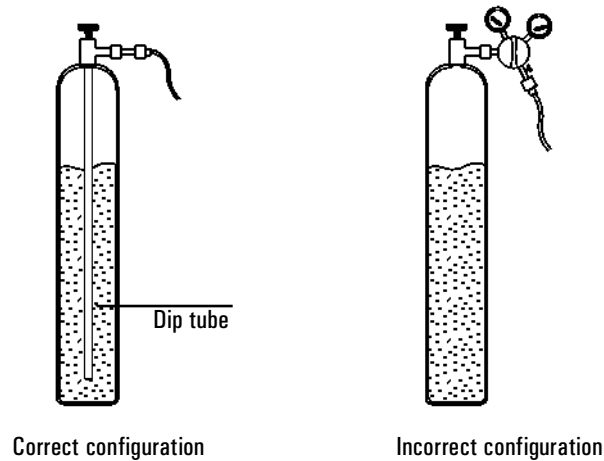

Figure 97. Correct and incorrect liquid CO₂ tank configuration
- The tank must have an internal dip tube or eductor tube to deliver liquid CO₂ instead of gas (see Figure 97).